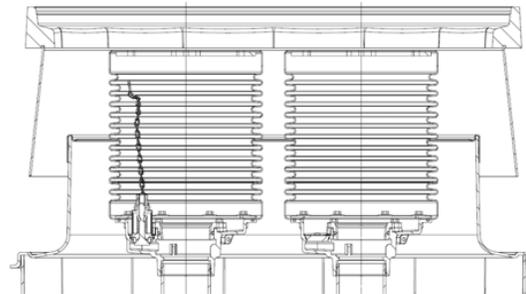

Figure 36
- 59. Using the 1-3100—TOOL (61SA-TOOL for P7XX or P5XX), tighten the spill container(s) onto the riser(s) with a minimum torque of 125 ft.-lbs. and a maximum torque of 250 ft.-lbs. See Figure 36.